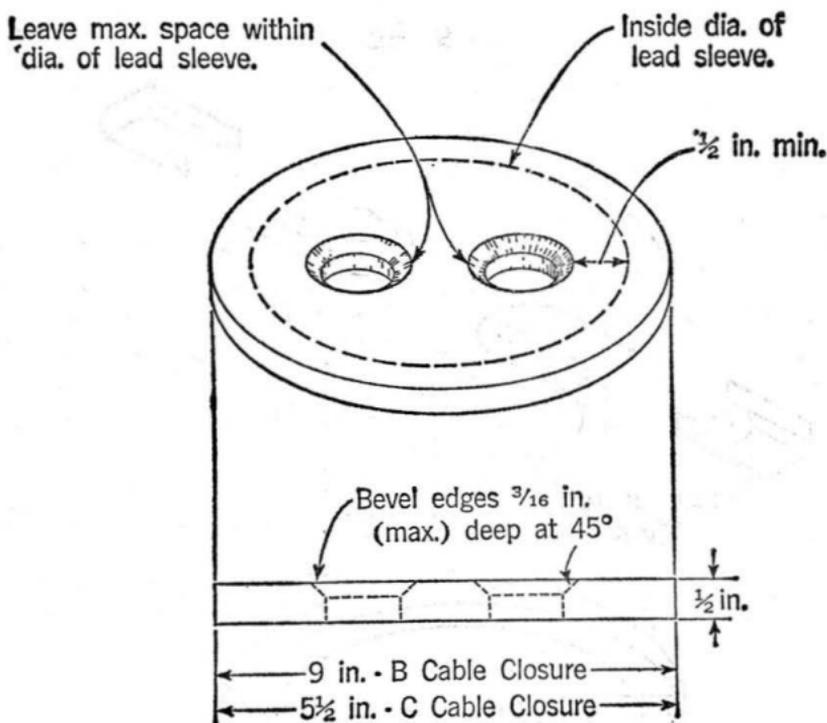

Fig. 4
3.02 **Cable Ends**—The plugs shall be spaced toward the center of the disc as illustrated in Fig. 4. Leave maximum space between holes.